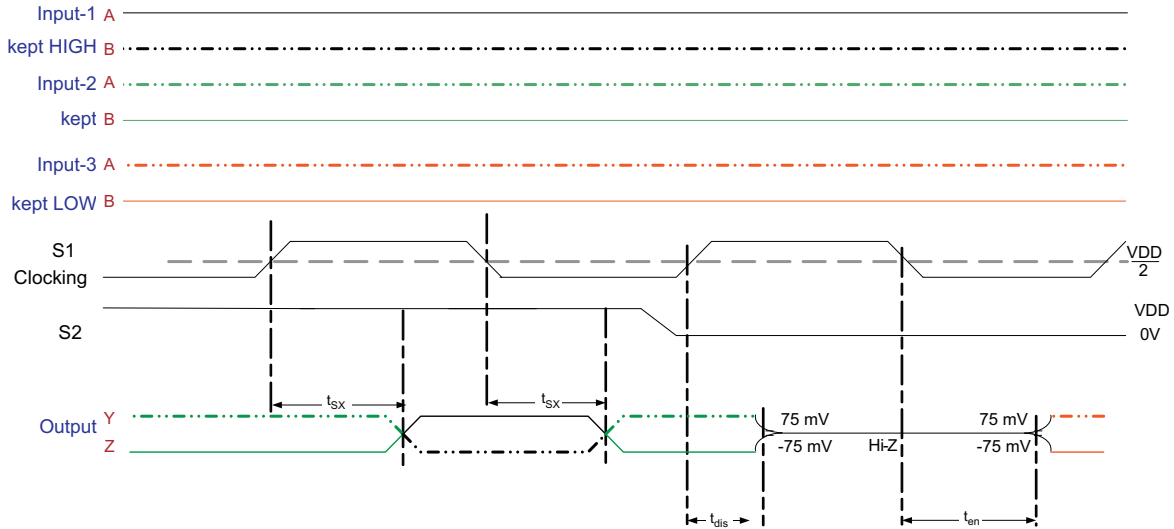

Figure 6. TMDs Outputs Control Timing Definitions
A. Channels 2, 3, 4, $V_{CC} = AV_{CC} = 3.3\text{ V}$, $T_A = 25^\circ\text{C}$, $R_{VSADJ} = 4.02\text{ k}\Omega$, See Figure 6
A. Channel 1, $V_{CC} = AV_{CC} = 3.3\text{ V}$, $T_A = 25^\circ\text{C}$, $R_{VSADJ} = 4.02\text{ k}\Omega$, See Figure 6
A. 1080p 10-Bit, $V_{CC} = AV_{CC} = 3.3\text{ V}$, $T_A = 25^\circ\text{C}$, $R_{VSADJ} = 4.02\text{ k}\Omega$, See Figure 6, Clock Channel = 185.6 MHz, Data Channel = 1.856 Gbps
A. 1080p 12-Bit, $V_{CC} = AV_{CC} = 3.3\text{ V}$, $T_A = 25^\circ\text{C}$, $R_{VSADJ} = 4.02\text{ k}\Omega$, See Figure 6, Clock Channel = 222.8 MHz, Data Channel = 2.228 Gbps